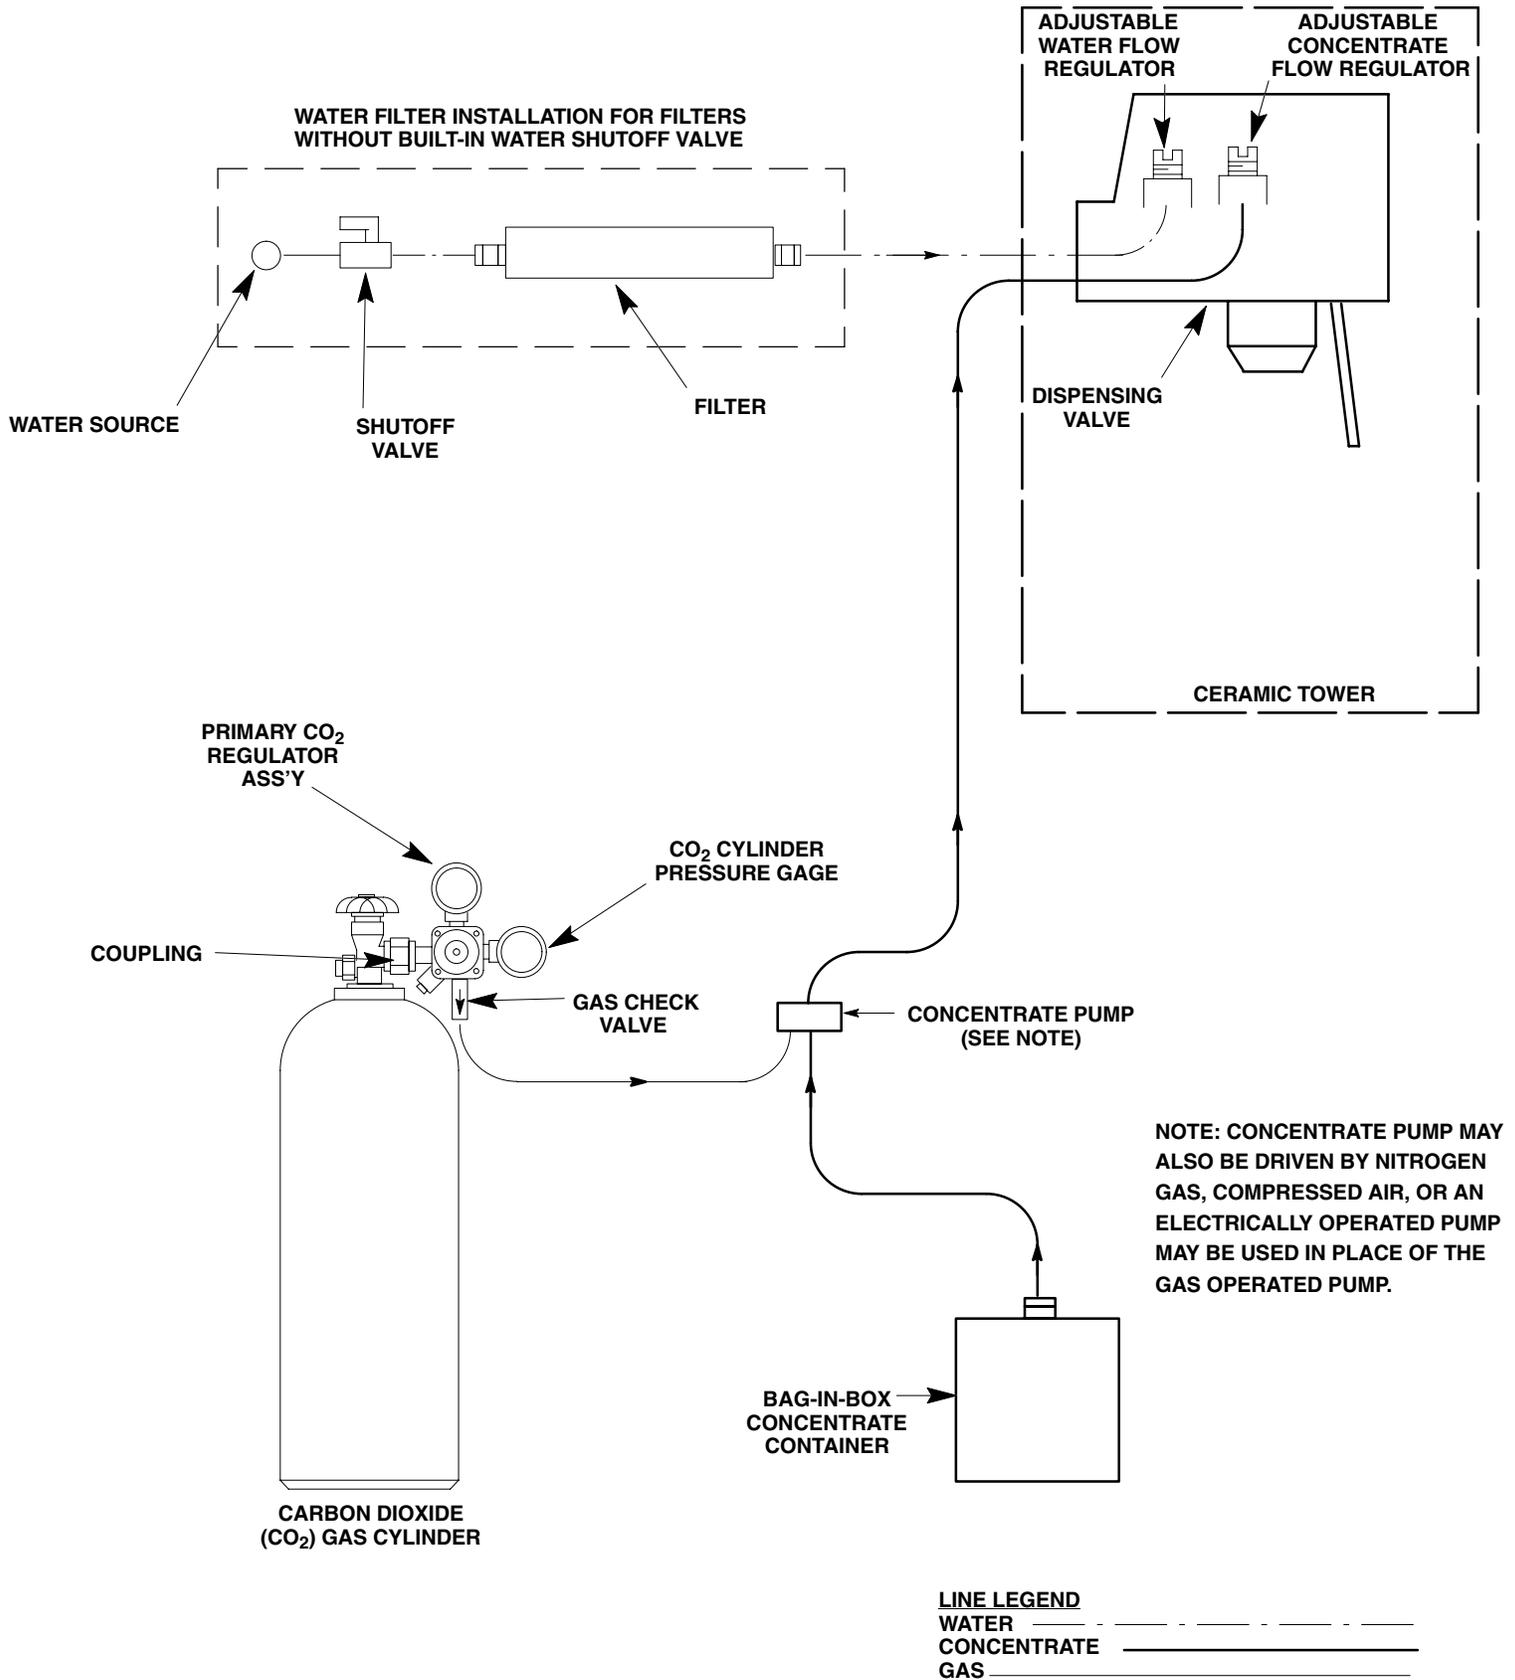

FIGURE 2. FLOW DIAGRAM (BAG-IN-BOX CONCENTRATE SYSTEM)
The Unit is compact and may be island-mounted or installed on a front or rear counter. The Unit may be connected to dispense a liquid-base concentrate combined with water to create a finished drink (see Figure 2) or the Unit may be connected into a system (see Figure 3) to dispense carbonated drinks.
(see Figure 2)
2. Adjust primary CO₂ regulator for Bag-in-Box system concentrate pumps (see Figure 2) to 70-psi. *Do not exceed maximum CO₂ pressure specified on the concentrate pumps.*